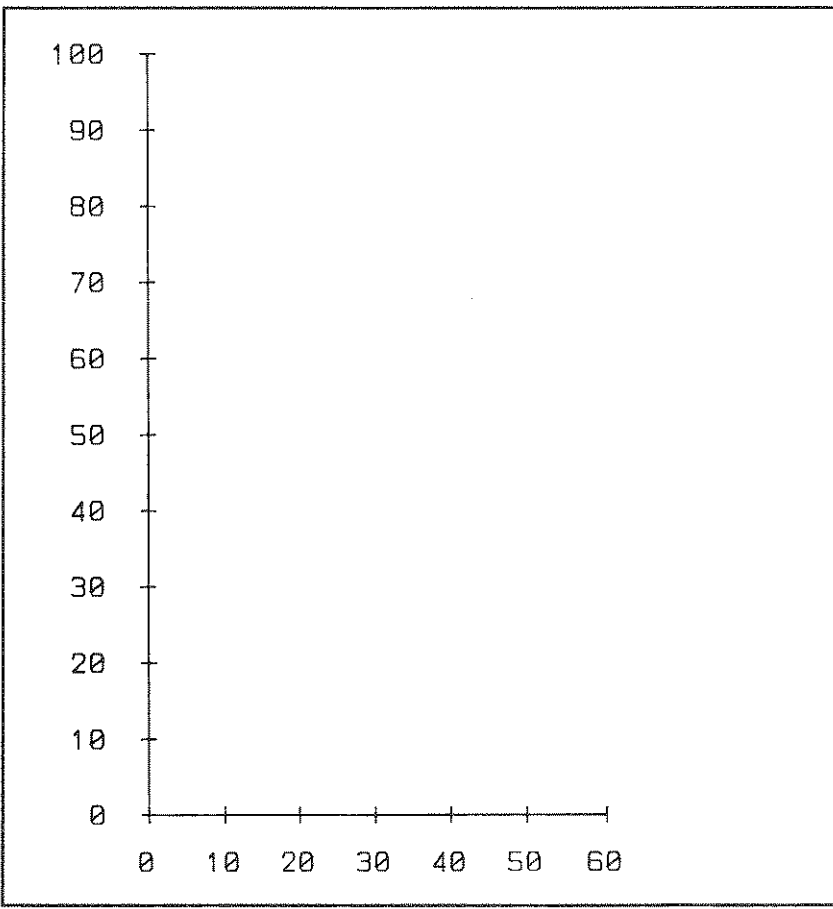

Figure 5-2. Examples of the axis (AX) command
The parameter *num-dir* determines the direction that the scale numbers are printed. If *num-dir* is 0 then the scale numbers are printed with their baseline parallel to the axis. If *num-dir* is 1 then the scale numbers are printed with their baseline perpendicular to the axis. In Figure 5-2 the scale numbers are parallel to the axis on the X-axis (the horizontal axis) and perpendicular to the axis on the Y-axis (the vertical axis).
Here are two examples of the axis command. The results are shown in Figure 5-2. Notice that a move absolute (MA) command precedes the axis command. The axis command starts from the current position. It is important to place the pen at the proper point before you use the axis command.
In the first axis command, *dir* has a value of 1 (draw X-axis, Figure 5-2). The following parameters (*len*, *div*, and *end-num*) are given in terms of one division. There are six divisions, each 100 long. The starting scale number (*start-num*) is 0, and is drawn at the origin (*scale-mark* = 0). The increment of scale numbers (*end-num*) is 10. The scale numbers are drawn parallel to the axis (*num-dir* = 0), and at a distance (*num-space*) of 50 from the axis.
In the second axis command, *dir* has a value of 2 (draw Y-axis, Figure 5-2). The following parameters (*len*, *div*, and *end-num*) are given in terms the entire axis. There are 10 divisions, each 1/10 of 1000, or 100 long. The starting scale number (*start-num*) is 0, and is printed at the origin (*scale-mark* = 0). The last scale number (*end-num*) is 100. The scale numbers are drawn perpendicular to the axis (*num-dir* = 1), and at a distance (*num-space*) of 50 from the axis.